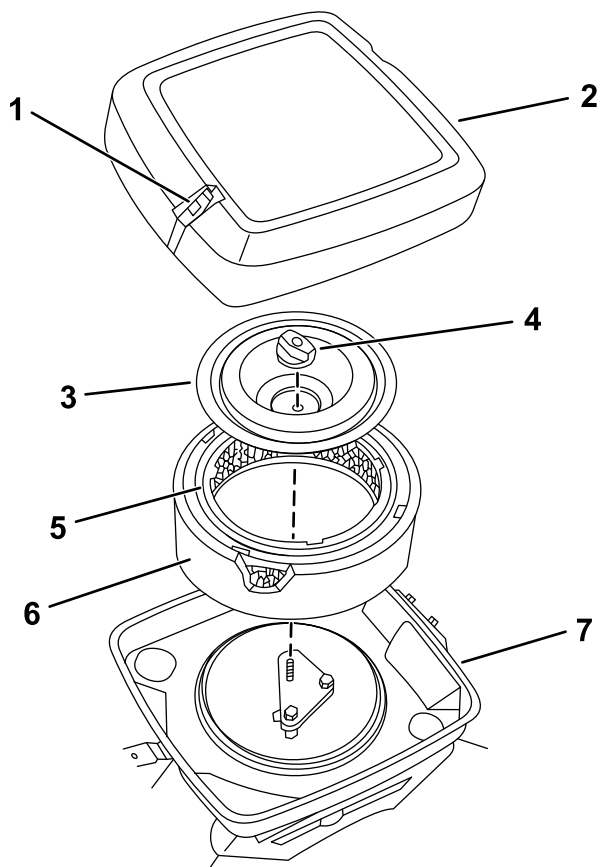

Figure 67
2. Remove the foam pre-cleaner from the paper element. (Figure 67).
2. Unhook the clips on the air-cleaner cover and remove the cover (Figure 67).
3. Remove the knob and plate (Figure 67).
5. Install the new foam pre-cleaner on to the new cartridge (Figure 67).
6. Install the air-cleaner assembly, plate, and knob in the body (Figure 67).
7. Install the cover and secure it using the clips (Figure 67).